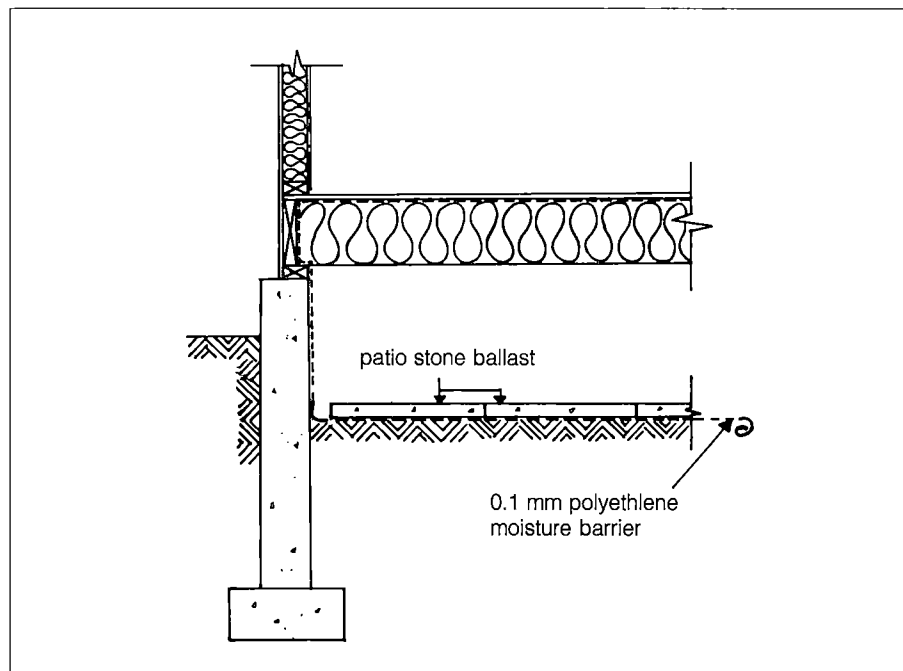

Fig. 25. Moisture barrier over ground covers
- Install a moisture barrier on the exposed ground in the crawl space. The moisture barrier could be 50 mm (2 ") asphalt, 10 MPa (1,500 PSI) Portland cement concrete, 2.2 kg/m2 roll roofing or 0.10 mm polyethene film. The joints should be lapped more than 150 mm (6") and should be weighted down with stone or some other suitable ballast material (fig 25). Air seal the crawl space from the ground surface.